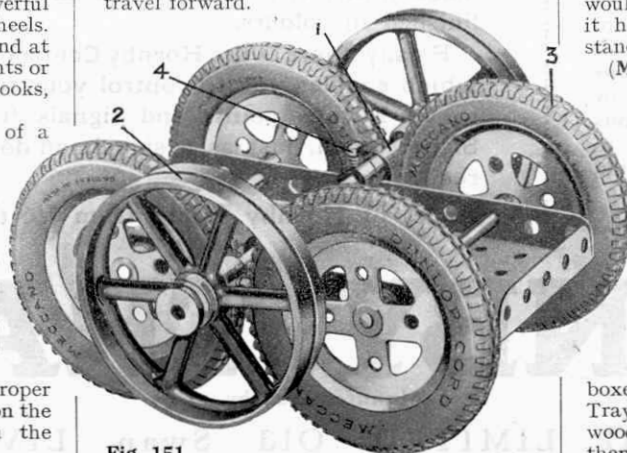

Fig. 151
S. A. Bell has adopted a novel means of propulsion for the model truck shown in Fig. 151. His idea consists essentially of a Rod 1 that carries at its extremities two Flywheels 2 and presses lightly against the peripheries of the Dunlop Tyres fitted to the 2" Pulleys that form the road wheels. By setting the Rod carrying the Flywheels in rapid motion, a remarkably powerful drive may be applied to the road wheels. The model will proceed along the ground at a fair pace and will climb steep gradients or surmount obstacles, such as thin books, etc., placed in its path.